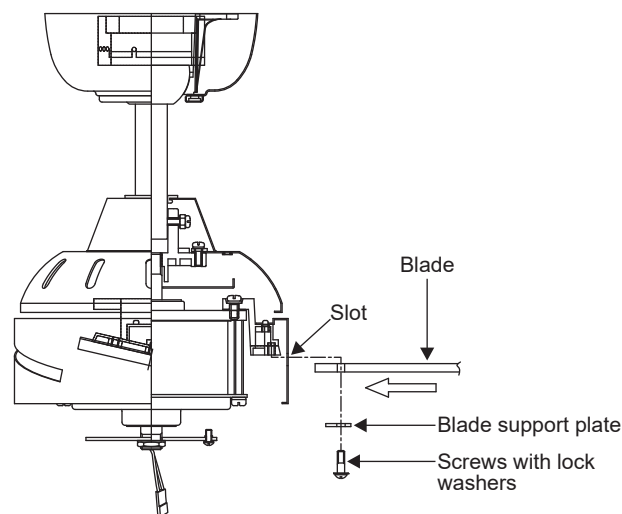

Figure 11
**Step 1.** Insert the blade through the slot in the housing. Align the holes in the blade and the fan motor assembly and secure with blade support plate and screws with lock washers . (Fig. 11)